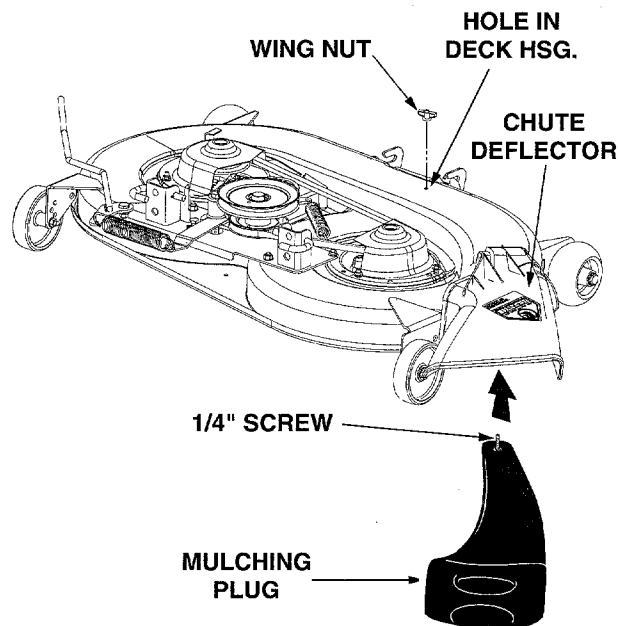

Figure 61
2. Lift the chute deflector upward and insert the mulching plug into the discharge opening of the deck (Refer to Figure 61).
3. Position the mulching plug so that the 1/4" screw at the inner end of the plug can be inserted up through the hole in the top of the deck housing. Secure with the wing nut (See Figure 61).